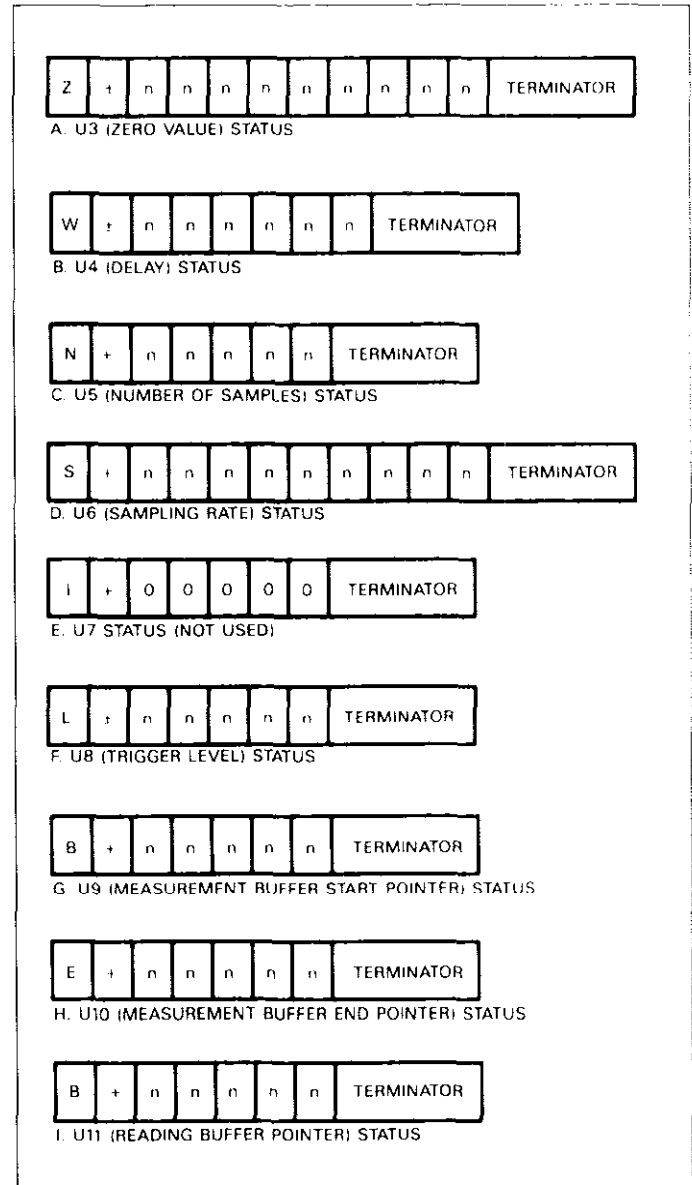

Figure 4-12. U3-U11 Status Word Format
These command options allow you to access the programmed parameters for the zero (Z), delay (W), number of samples (N), and sample rate (S). Figure 4-12 summarizes the formats of the returned values.
To access the desired parameter, simply send the desired command and address the instrument to talk in the normal manner. As with all the U command options, the corresponding status will be transmitted only once after each command is sent. The formats for the buffer pointer status values are shown in Figure 4-12.